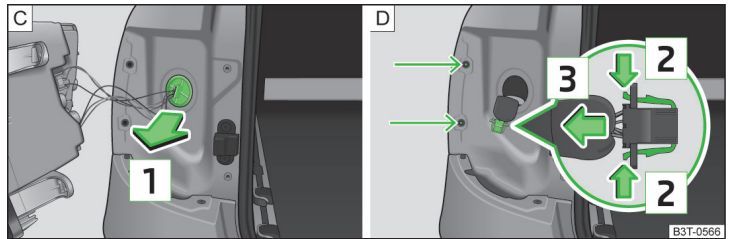
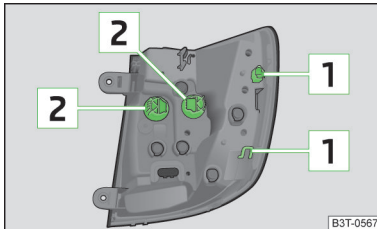

Fig. 207 Seal expand / lighting connector
Fig. 208
- Remove the rubber seal in the direction of arrow **1** » Fig. 207 - [C].
- Pull off the cable bundle with the plug cap » Fig. 207 - [D].
- Press together the interlocks on the connector in the direction of arrow **2** » Fig. 207 - [D].
- Install the rubber seal in the body in the opposite direction to arrow **1** install » Fig. 207 - [C].
- Insert the tail lamp with the holes **1** » Fig. 208 on page 223 into the bolts on the body » Fig. 207 - [D].
- Turn the bulb holder [2] » Fig. 208 in an **anti-clockwise** direction and remove it from the lamp housing.